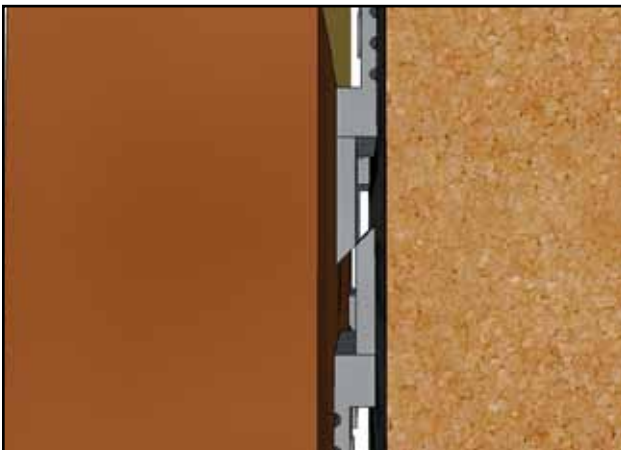

Figure 6
6. Hang the panel (Figure 6 and 7)